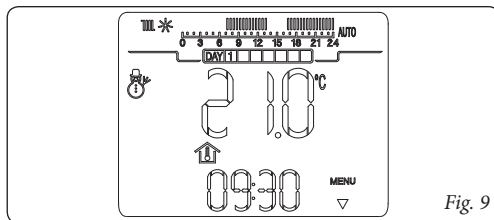

Fig. 9
- **Winter mode (⌚).** In winter mode the boiler is enabled for room central heating. In winter mode the CRONO 7 can function in automatic or manual mode. For the description of functioning see chapter 5. The display shows the day and current time, the room temperature and the hour bar with the daily programming of the central heating timer along with the relative symbols (fig. 9).